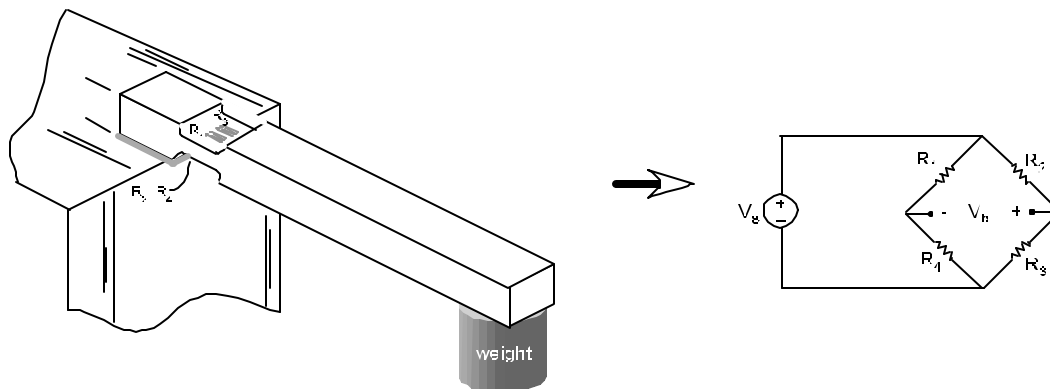

Figure P8.7
4. Referring to Fig. P8.7 above, and given that C_1 and C_2 are derived from a MEMS accelerometer like that described in Example 8.3 with a natural frequency of 15,000 r/s, determine $v_b(t)$ for an acceleration of 50 g.